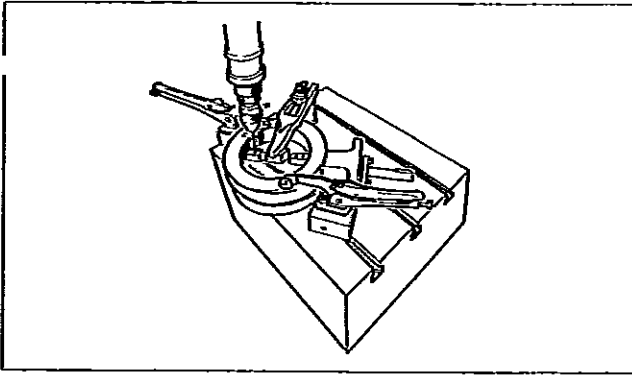
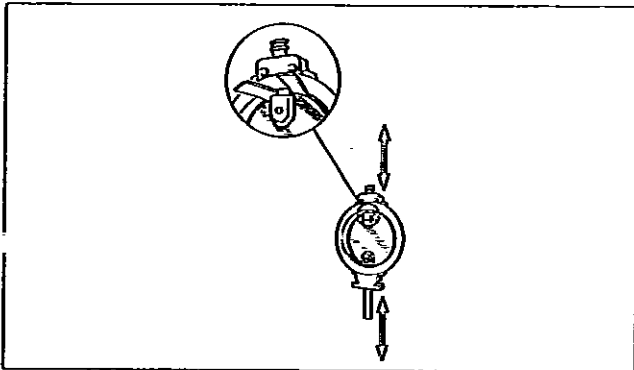

Fig. 12. Drilling the pins
Fig. 13. Protecting the disc during disassembly and assembly
- Remove the clamp ring (2) and seat ring (4) according to section 5.4.
- Set the valve horizontally on a sturdy surface so that the flat side of the disc lays against the surface (see Fig. 12).
- Drill the holes carefully to the centre of the pins (14). Choose a drill 0.2-0.5 mm smaller than the diameter of the pin.
- Dismantle the gland packing including anti-extrusion ring (22) and sheet ring (21) according to Section 5.2.
- Detach the screws (26) and the blind flange (10) and remove the gasket (18).
- Place rubber strips or other protection between the disc edge and the body and remove the shafts (see Fig. 13).
- Place the disc horizontally on a surface so that the flat side of the disc lays against the surface. Lift the body around the disc so that the shaft bores are aligned with the bores in the disc. Protect the disc (see Fig. 13).